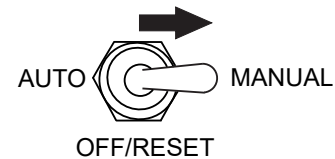

Figure 56. Auto Start/Stop Switch (Manual)
2. Place the **Auto Start/Stop switch** in the **MANUAL** position to start the engine (Figure 56). Once the engine starts, let the engine run for 1–2 minutes. Listen for any abnormal noises.